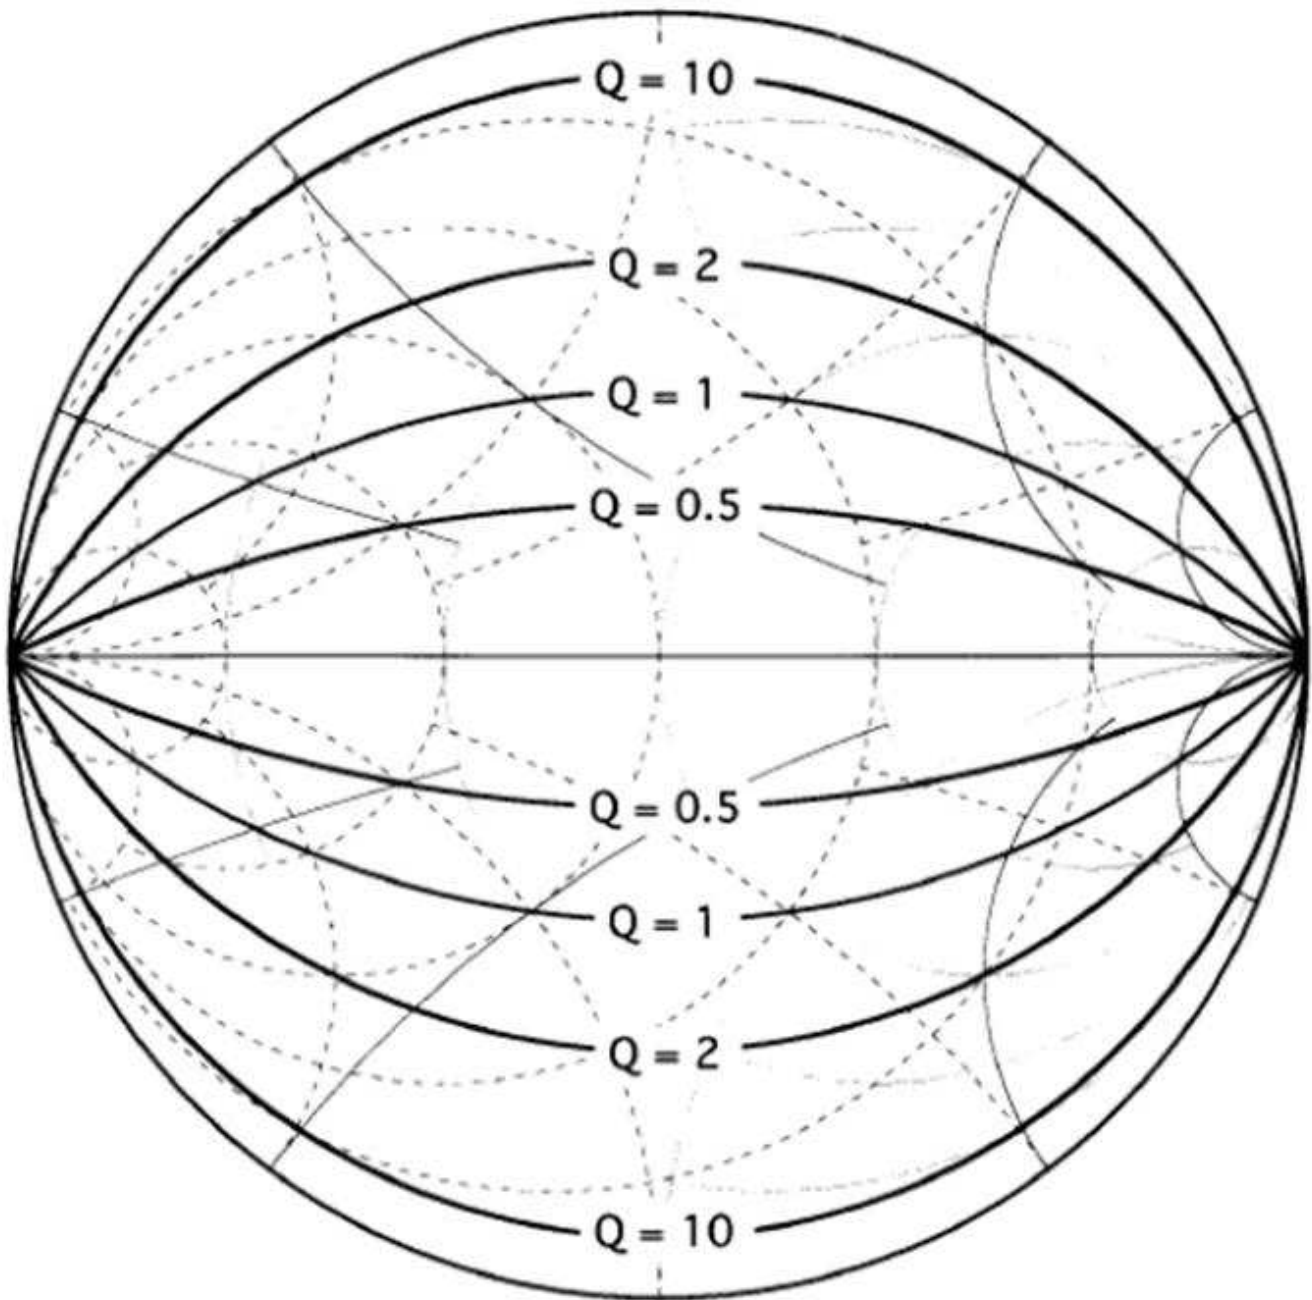

Figure 5. Smith Chart Overlapped with Constant Q-lines
The following is a discussion about the constant Q-line. Every complex impedance point on the Smith Chart has a quality factor (Q) associated with it. The constant Q-line is overlaid on the Smith Chart as shown by the curve in Figure 5. The lower the Q is, the broader the bandwidth of the matching network. Adding a matching component moves the impedance point through a path to the new impedance point. Keeping the path short and close to the real axis helps achieving a broad bandwidth (Figure 5).